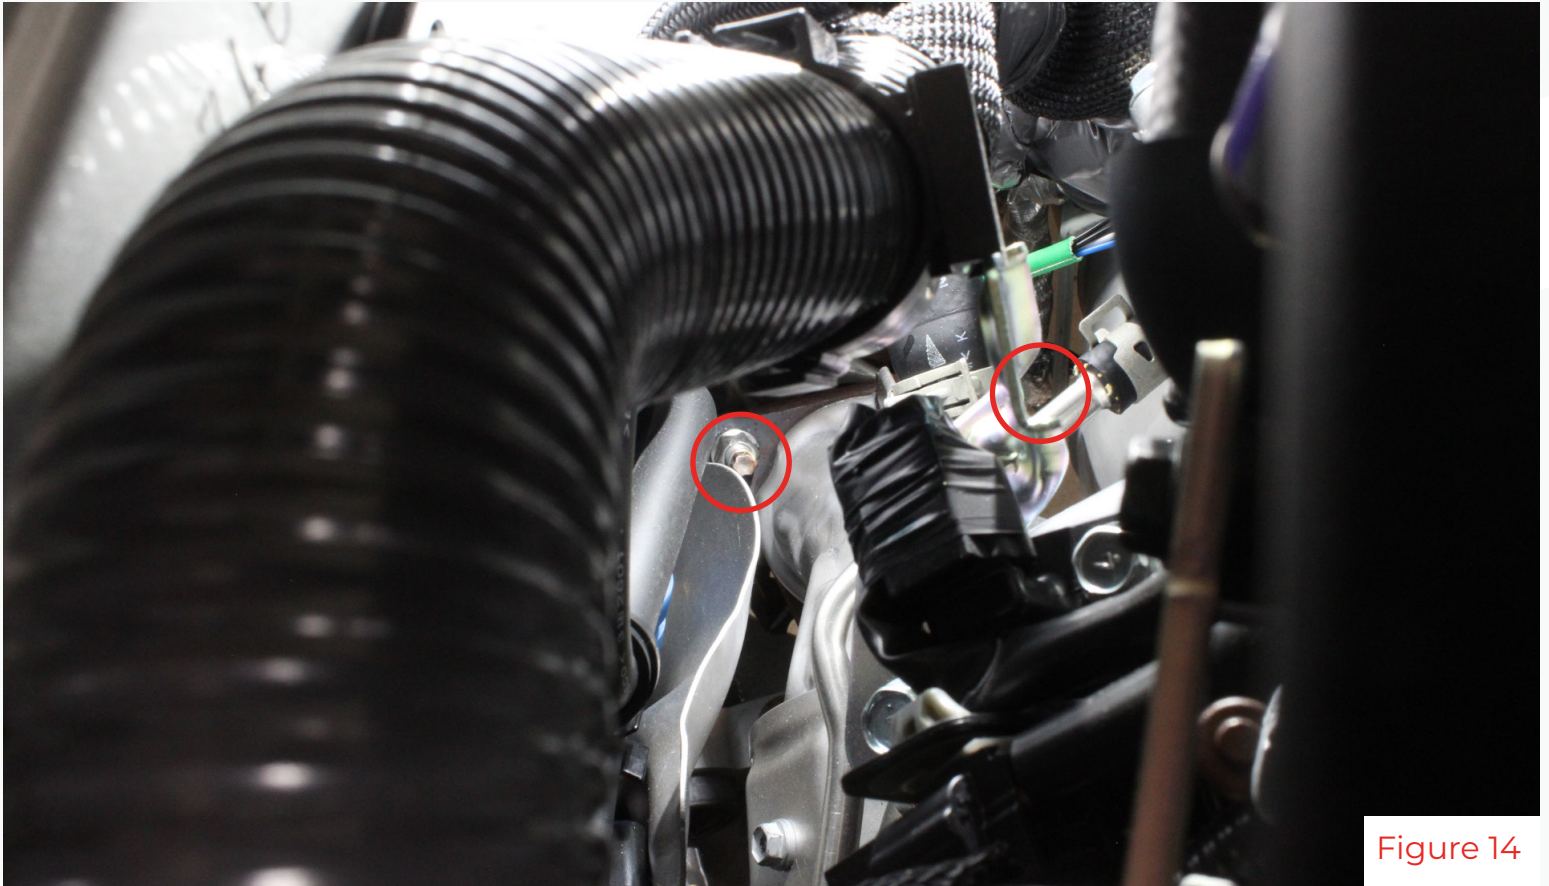

Figure 14
9. Remove the two passenger side downpipe nuts from the top, near the rear secondary firewall(fig 14).